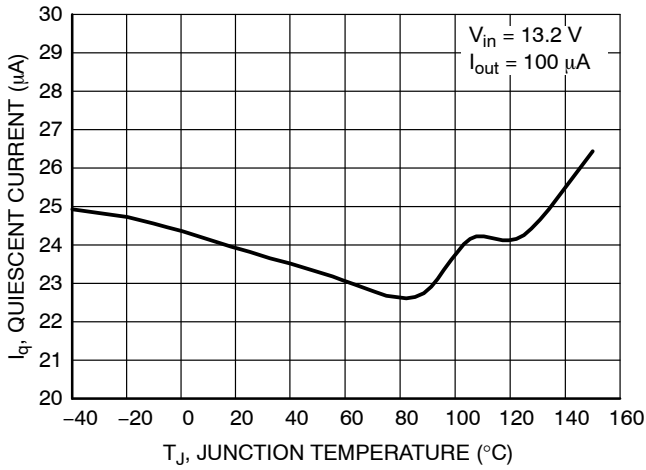
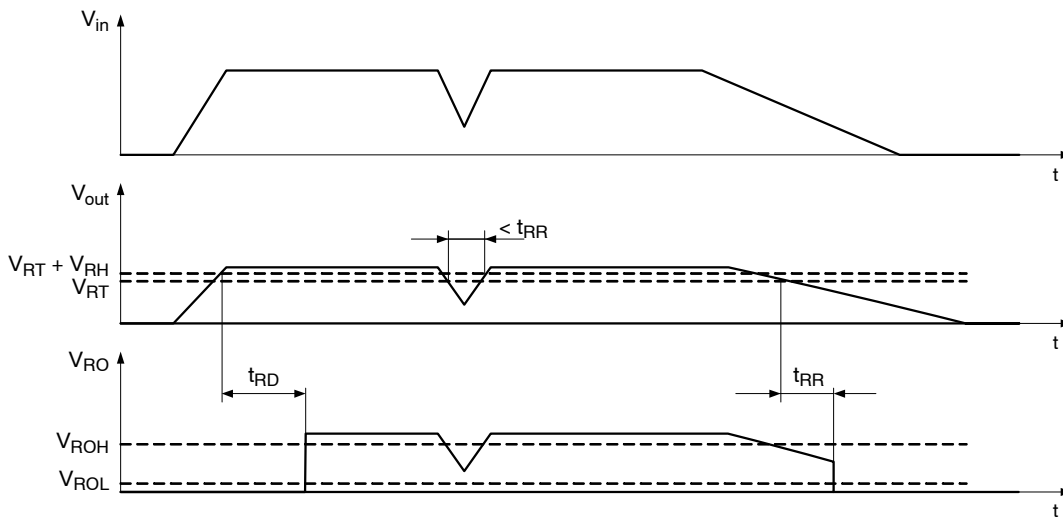

Figure 4. Quiescent Current vs. Temperature
Figure 33. Reset Function and Timing Diagram
| Reset Reaction Time (see Figure 33) | | t_{RR} | 16 | 25 | 38 | μs |
The NCV8772 regulator is self-protected with internal thermal shutdown and internal current limit. Typical characteristics are shown in Figure 4 to Figure 33.
A reset signal is provided on the Reset Output (RO) pin to provide feedback to the microprocessor of an out of regulation condition. The timing diagram of reset function is shown in Figure 33. This is in the form of a logic signal on RO. Output voltage conditions below the RESET threshold cause RO to go low. The RO integrity is maintained down to V_{out} = 1.0 V. For 5 V voltage option, the Reset Output (RO) circuitry includes internal pull-up (30 kΩ) connected to the output (V_{out}) No external pull-up is necessary.